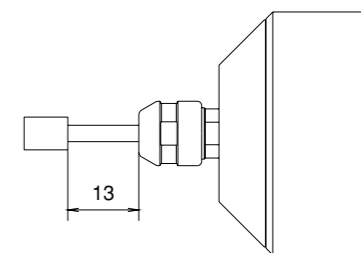

Fig.14
- 2 Do not exceed 13mm overhang for mounted grindstones. In case overhang must exceed 13mm reduce the motor speed in accordance with Fig.14.